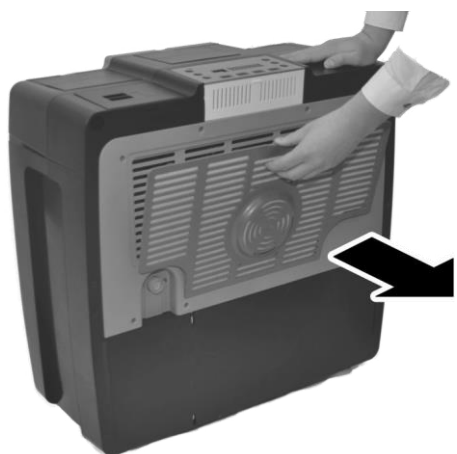

Fig. 28: Opening the intake grille
1. ➤ Open the intake grille by pulling it (Fig. 28).